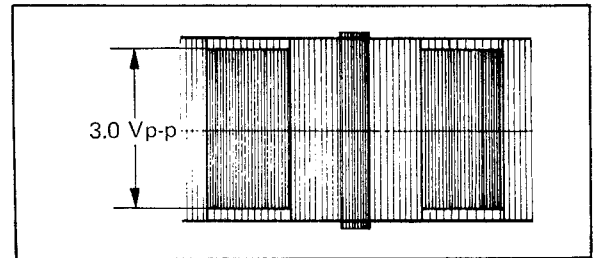

Fig. 6-28 FM record level
3. Adjust R1 (FM REC LEVEL), so that the level of TP-1 is 3 Vp-p as shown in Fig. 6-28.